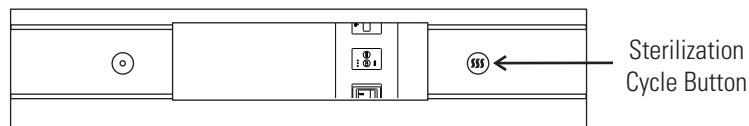

Figure 5-4. Sterilization Button Location
2. Press and hold the large white sterilization cycle button on the right side of the unit (Figure 5-4) for approximately 3 seconds until the LED lights.